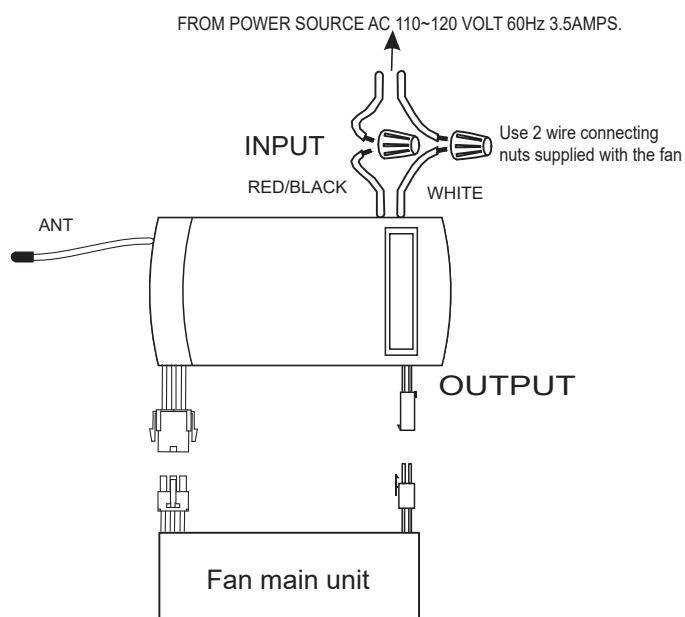

FIG.1
2. For installing to junction box, secure the junction box directly to the building structure. Use appropriate fasteners and building materials. The junction box and its support must be able to fully support the moving weight of the fan (at least 100lbs). Use a UL listed metal junction box (Not Included). Do not use a plastic junction box. Figure 1 & 2 examples to mount the junction box (Not Included).
- Make connections as follows, using the wire nuts supplied: (FIG.1)